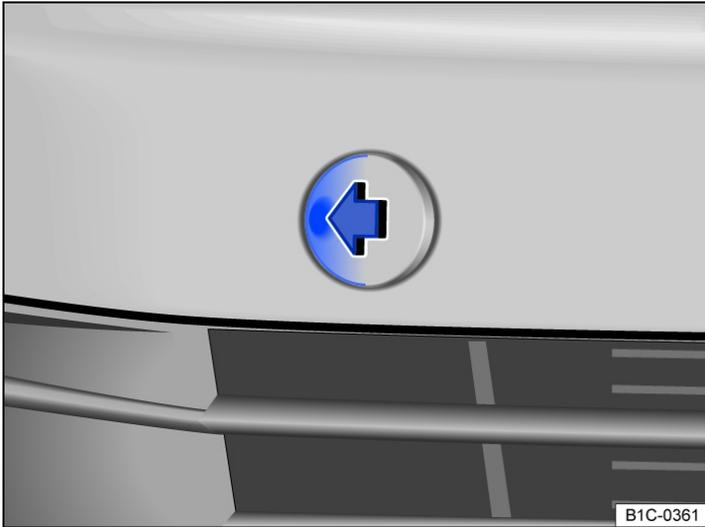

Fig. 1 In the right front bumper: Remove cover.
2. Press on the marked area of the cover in the direction of the arrow to release the catch on the cover → fig. 1.